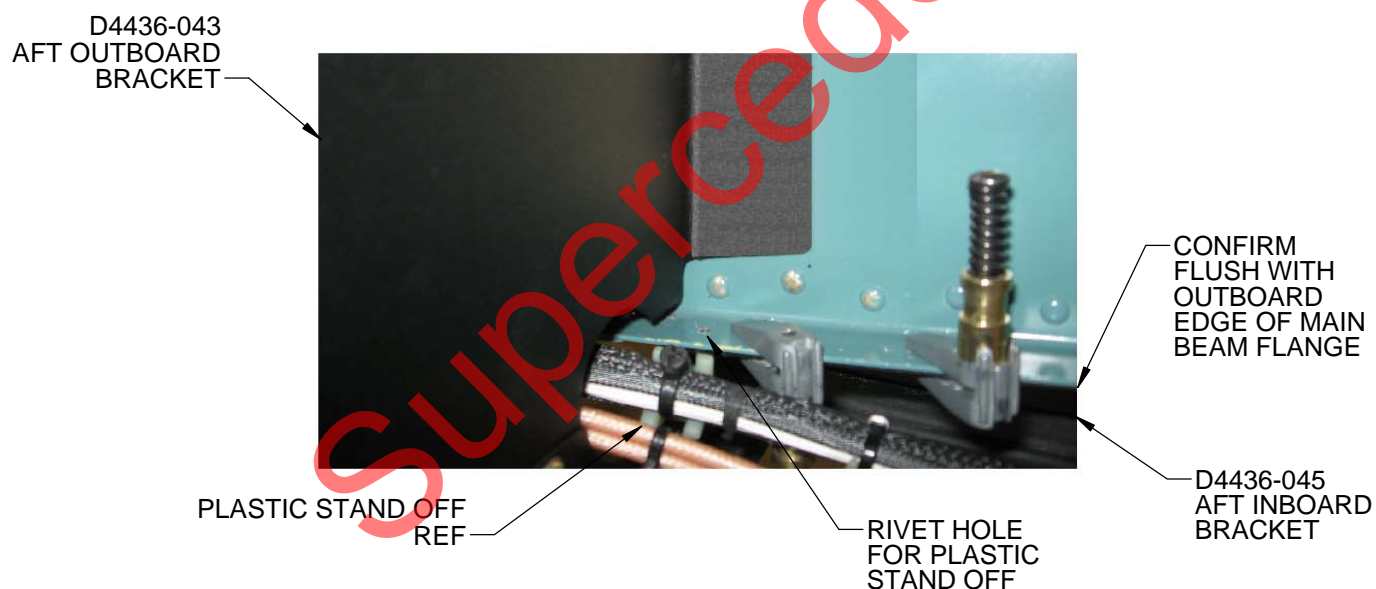

Figure 6. D4436-043 & D4436-045 Brackets Installation
- 4.4 Drill off rivets holding plastic wire bundle stand offs. Transfer drill $\varnothing 0.144$ holes to D4436-045 Aft Inboard Bracket per Figure 6. Transfer drill 2 x $\varnothing 0.144$ holes to D4434-043 Fwd Inboard Bracket per Figure 7. Transfer drill 2 x $\varnothing 0.144$ holes for D4434-043 Fwd Inboard Bracket per Figure 8. Before drilling confirm the D4434-043 and D4436-045 brackets are flush with outboard edge of main beam flange. Assemble D4436-045 Aft Inboard Bracket and D4434-043 Fwd Inboard Bracket and wire bundle stand offs to main beam flange using MS35206-229 screw, NAS1149FN616P washer and MS21042L06 nut.